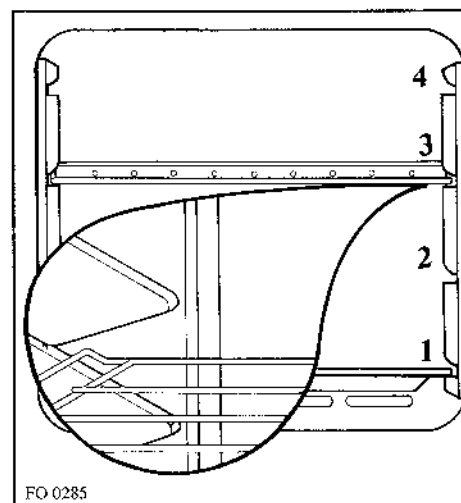

Fig. 7 /
**IMPORTANT: The anti-tip oven shelf must be positioned as shown in Fig. 7.**